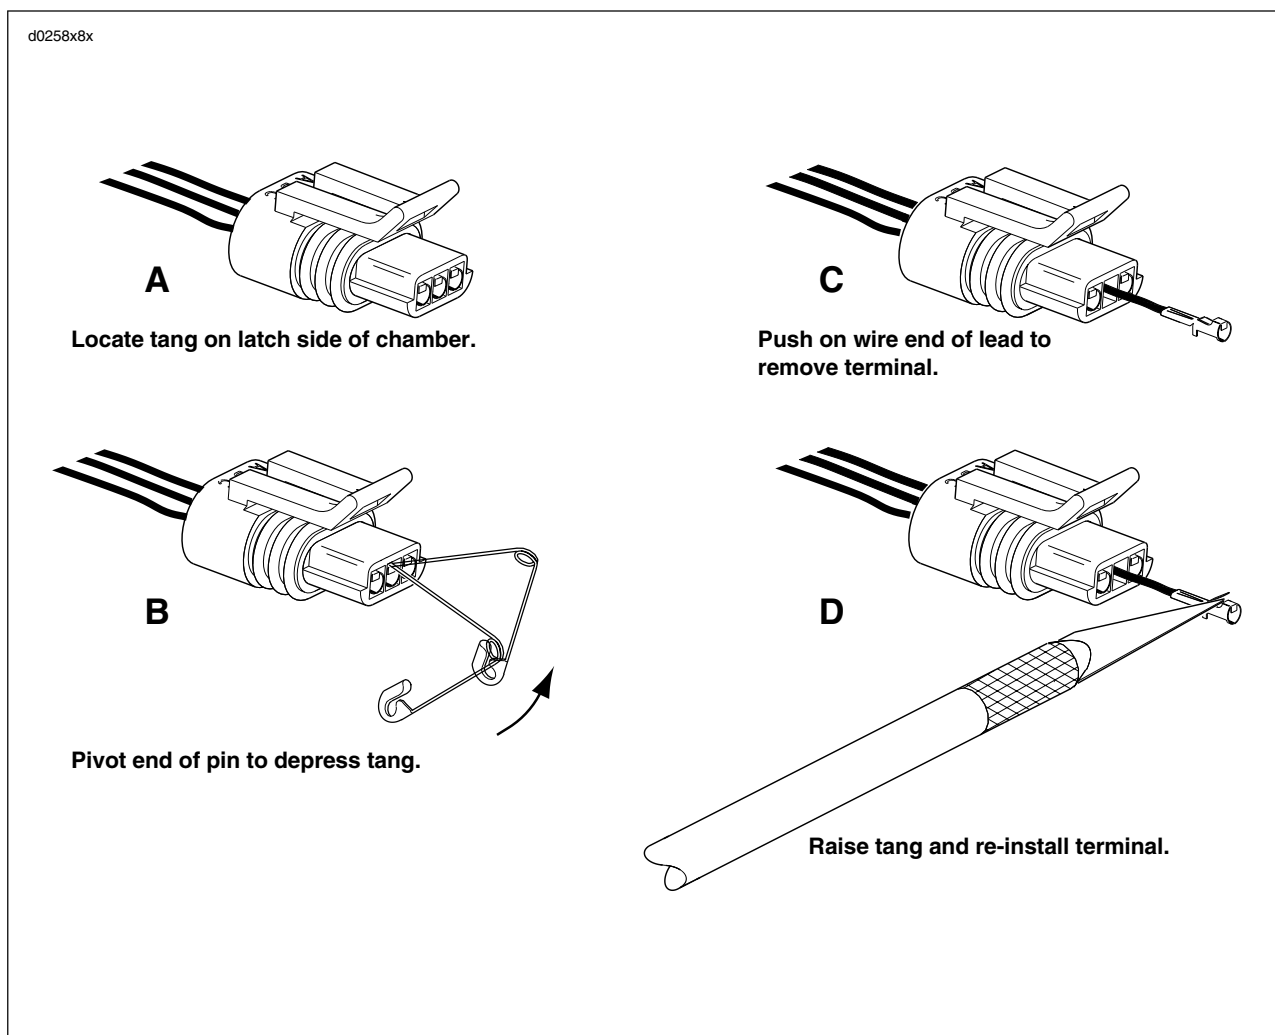

Figure B-14. Packard Connectors
Two types of Packard pull-to-seat electrical connectors are used. One type has an external latch to lock the pin and socket halves together, while the other makes use of a wire-form. See Figure B-14. The manner in which the terminals are picked differs between these two types of connectors, as further described below.
3. To free a pull-to-seat terminal from the connector housing, first look into the mating end of the connector to find the locking tang. See A in Figure B-14. The tangs are always positioned in the middle of the chamber and are on the same side as the external latch. On those connectors with locking ears, the tang is on the side opposite the ear.
4. At a slight angle, gently insert the point of a one inch safety pin down the middle of the chamber (about 1/8 inch) and pivot the end of the pin toward the terminal body. When a click is heard, remove the pin and repeat the procedure. See B in Figure B-14. The click is the sound of the tang returning to the locked position as it slips from the point of the pin. Pick at the tang in this manner until the clicking stops and the pin seems to slide in at a slightly greater depth than it had previously. This is an indication that the tang has been depressed.
5. Remove the pin and push on the wire end of the lead to extract the terminal from the mating end of the connector. See C in Figure B-14. If necessary, pull back the conduit and remove the wire seal at the back of the connector to introduce some slack in the wires.
1. To install a terminal back into the chamber of the connector housing, use a thin flat blade, like that on an X-Acto knife, and carefully bend the tang outward away from the terminal body. See D in Figure B-14.